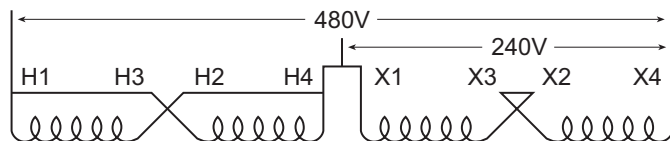

Figure 1
36. Can 4-Winding Single Phase Transformer be auto-connected? Yes. There are occasions where 480 volts single phase can be stepped down to 240 volts single phase by autoconnecting a standard 4-winding isolating transformer as shown in Figure 1. If connected in this manner, the nameplate KVA is doubled. For example: A 10 KVA load can be applied to a 5 KVA 4-winding transformer if connected per Figure 1.